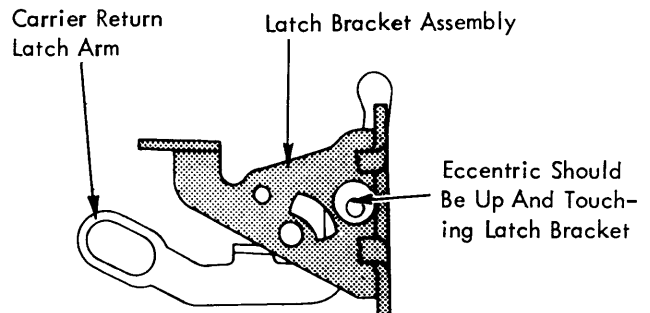

FIGURE 99. *Pivot Pin Eccentric (Early Level Machines Only)*
5. Pivot Pin Eccentric (found on early level machines only) The eccentric collar should be adjusted with the high point up so that it just touches the operational latch bracket (Fig. 99). This prevents the pivot pin from bowing during a print escapement operation. On long carriage machines the eccentric should also be adjusted laterally on the pivot pin so that the end play of the pivot pin will be .002" to .005".